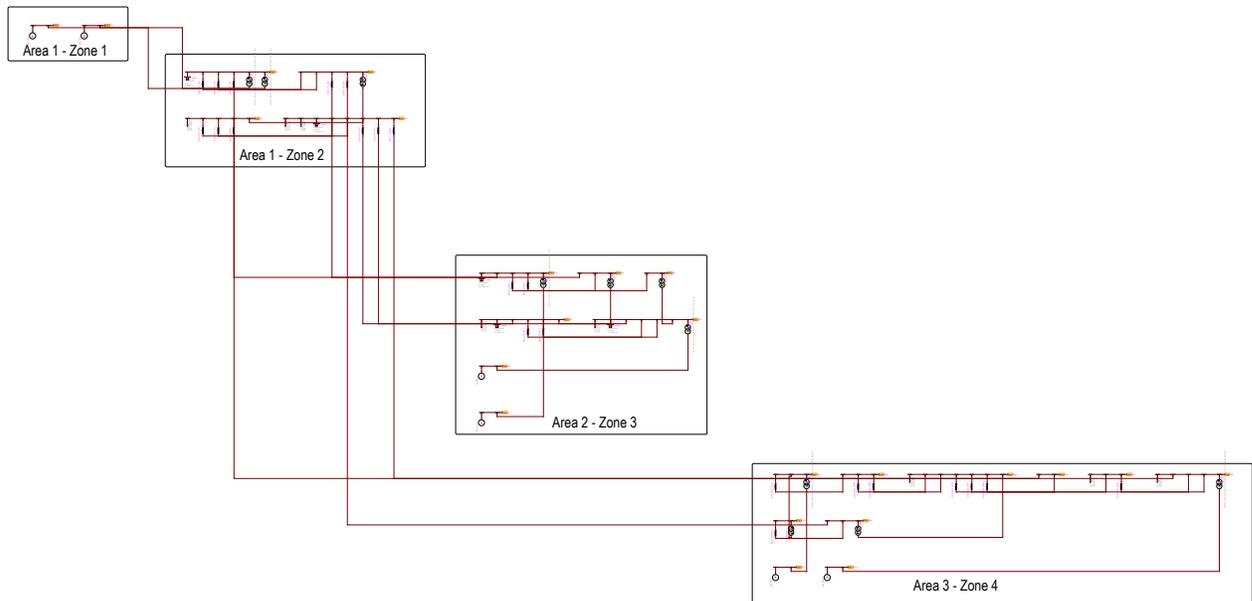

Figure 3: Devices organization when 'By voltage levels' is checked
- Organization by Voltage Levels:** The network is organized by areas first. All areas are positioned in apparition order vertically. Then, inside each area, the zones are separated horizontally. Inside each zone, the buses are vertically positioned based on their voltage level. For a given voltage level, buses are organized horizontally aligned one next to another (Figure 3).